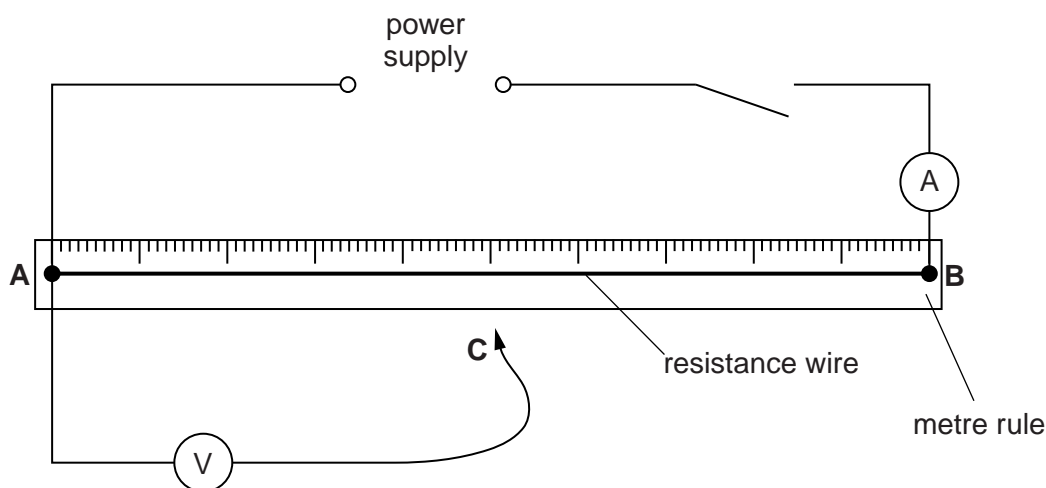

Fig. 3.1
- (vii) Two suitable terminals (e.g. crocodile clips) attached to the constantan wire at the ends of the metre rule so that connections can be made to the circuit shown in Fig. 3.1.
- (ix) Sufficient connecting leads to set up the circuit shown in Fig. 3.1.
1. The circuit shown in Fig. 3.1 must be set up for the candidates.